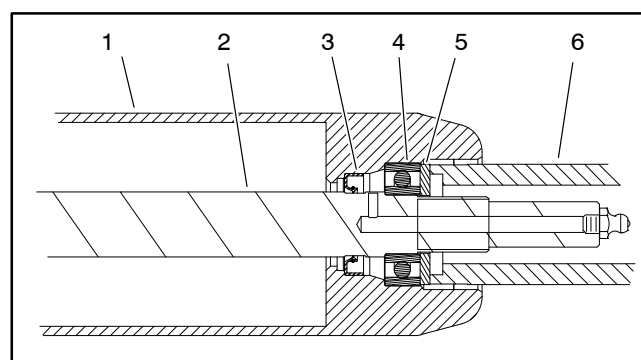

Figure 45
B. Use washer and bearing/outer seal tool (see Special Tools) with a soft face hammer to fully seat bearing (Fig. 45). After bearing installation, make sure that shaft freely rotates and that no binding is detected. If necessary, lightly tap bearing and/or shaft ends to align shaft and bearings. Remove washer from roller.